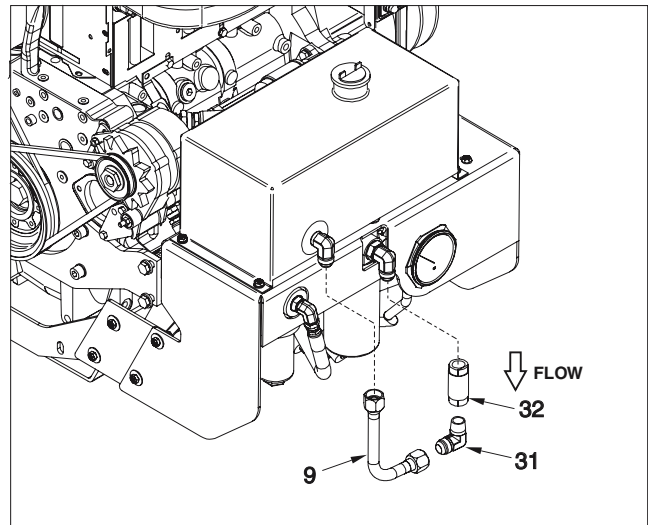

Figure 11 - Install Check Valve and fittings
A. Connect check valve, tubing and fittings (see Figure 11). Insure arrow on check valve is pointing towards the ground.